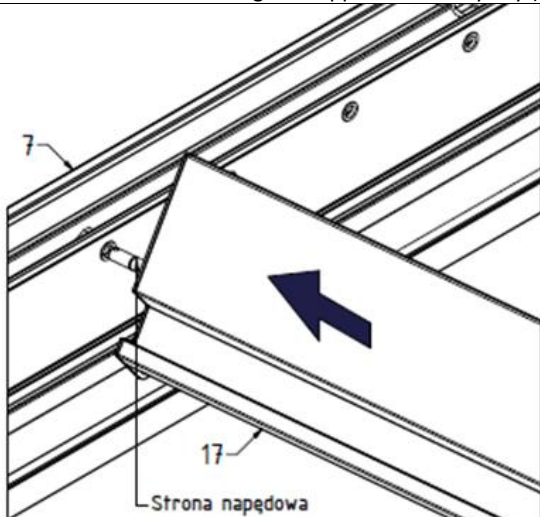

Fig. 15
15. Insert the drive blades sequentially into the marked holes in the drive thrust beam. Lift the blades above the beam, insert them diagonally into the drive thrust beam (7) - fig. 15, then lower the opposite end and slide it into the bearing thrust beam (8). The end on the bearing side has to be secured from the inside of the beam with a binder DIN6799 - 10 using the supplied assembly key (19) - fig. 16.